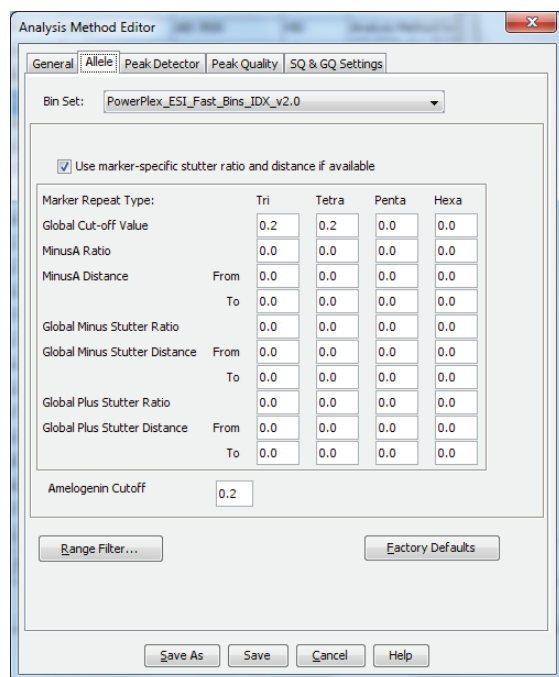

Figure 25. The GeneMapper® ID-X 'Allele' tab with settings for using a 20% peak filter.
6. Select the 'Allele' tab (Figure 25).
8. Ensure that the "Use marker-specific stutter ratio and distance if available" box is checked. Doing this will assign locus-specific stutter files and distances from the imported stutter file. Ensure that the appropriate global filter is applied to this analysis method. For example, for a 20% filter, enter "0.20" for the Global Cut-off Value for Tri and Tetra repeats (Figure 25). In-house validation should be performed.